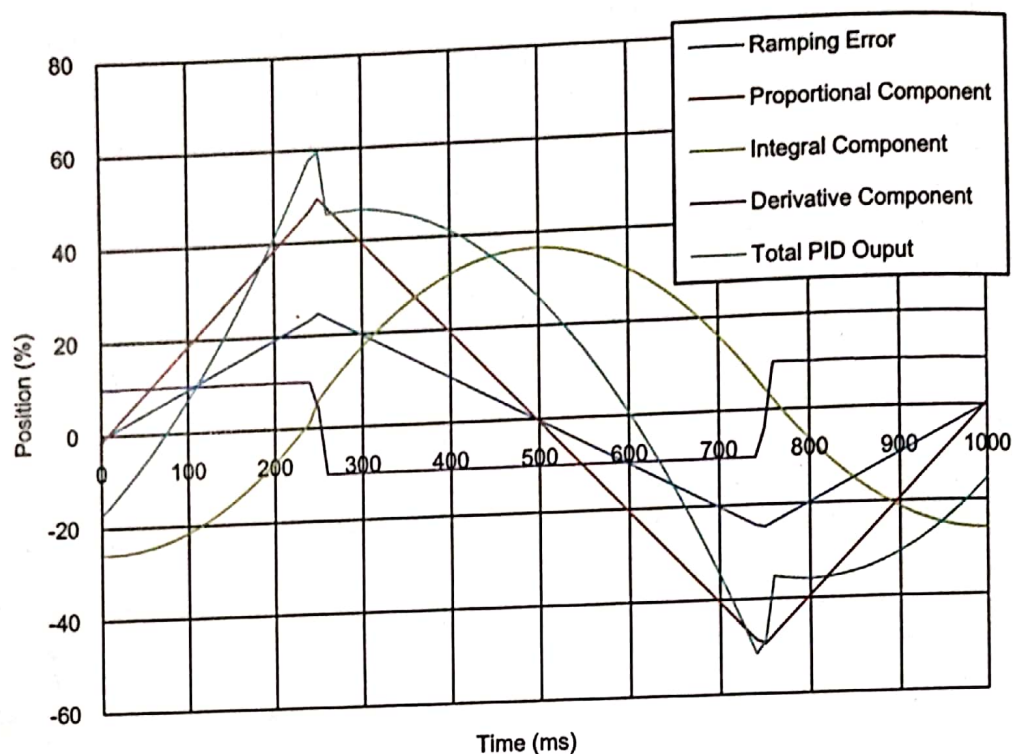

Figure 49. Servo system PID controller outputs.
Figure 49 displays the servo system PID controller output. The plots were generated using the **Position Loop (Device Controlled)** mode with the rail incremental encoder and the triangle wave generator. This created a ramping error of $\pm 100\%/s$ in the resulting plotted waveforms. The gain K_p value was of 2, the integral t_i value of 0.1 s, and the derivative t_d value of 0.1 s.
Figure 49 shows that the peak proportional output P_{OUT} is 50% and the peak error is 25%. The peak proportional output can be calculated using Equation (65). The proportional output is thus shown to be equal to 50% (2×25).